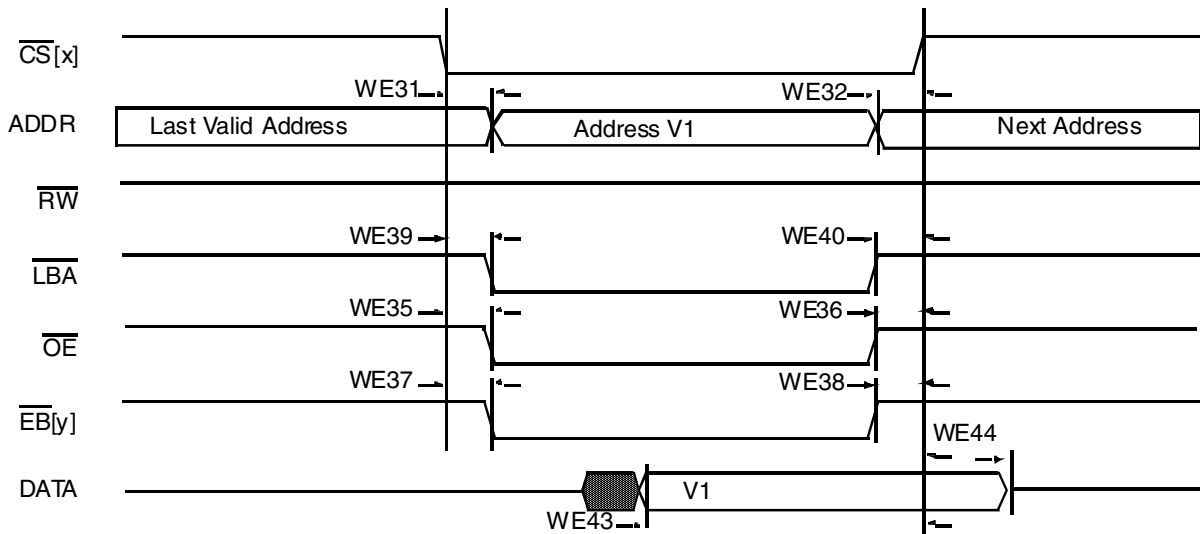
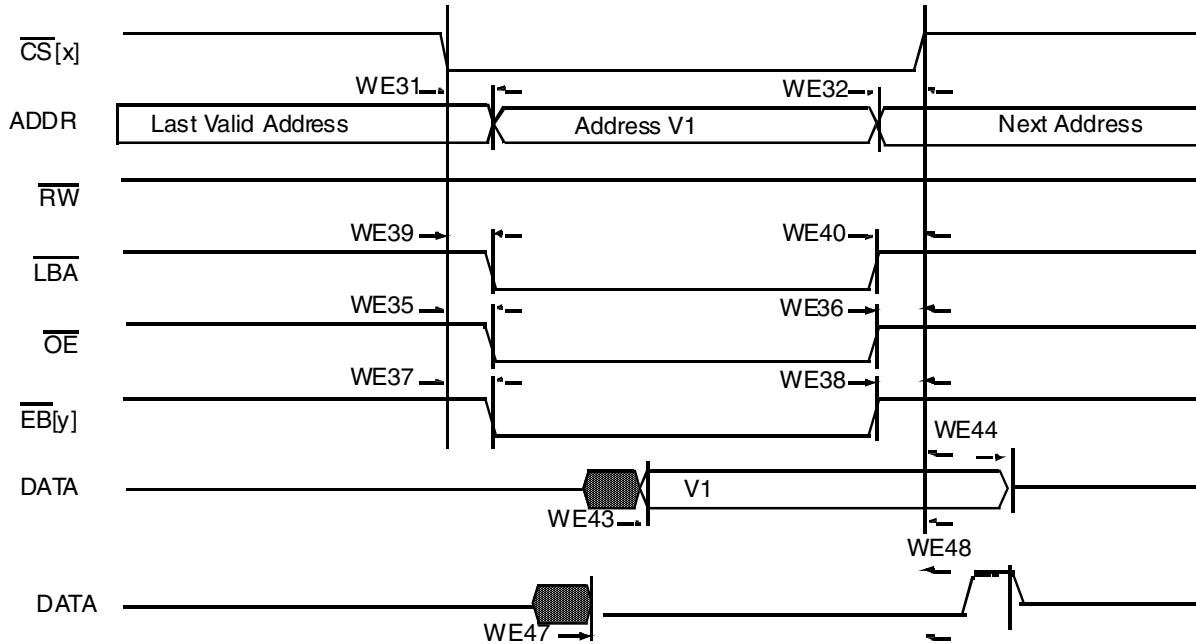

Figure 45. Asynchronous Memory Read Access
Figure 49. DTACK Read Access
Figure 45 through Figure 49, and Table 55 help to determine timing parameters relative to chip select (CS) state for asynchronous and DTACK WEIM accesses with corresponding WEIM bit fields and the timing parameters mentioned above.